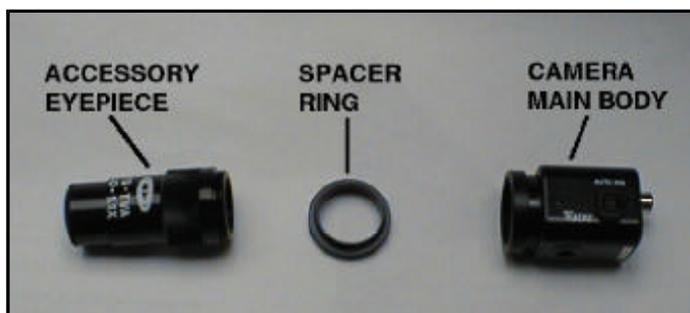

Figure 2-35. Microscope CCD camera parts.
- 1) Attach the spacer ring to the accessory Microscope CCD eyepiece. Then, attach the Microscope CCD main body to the spacer ring, Figure 2-35.